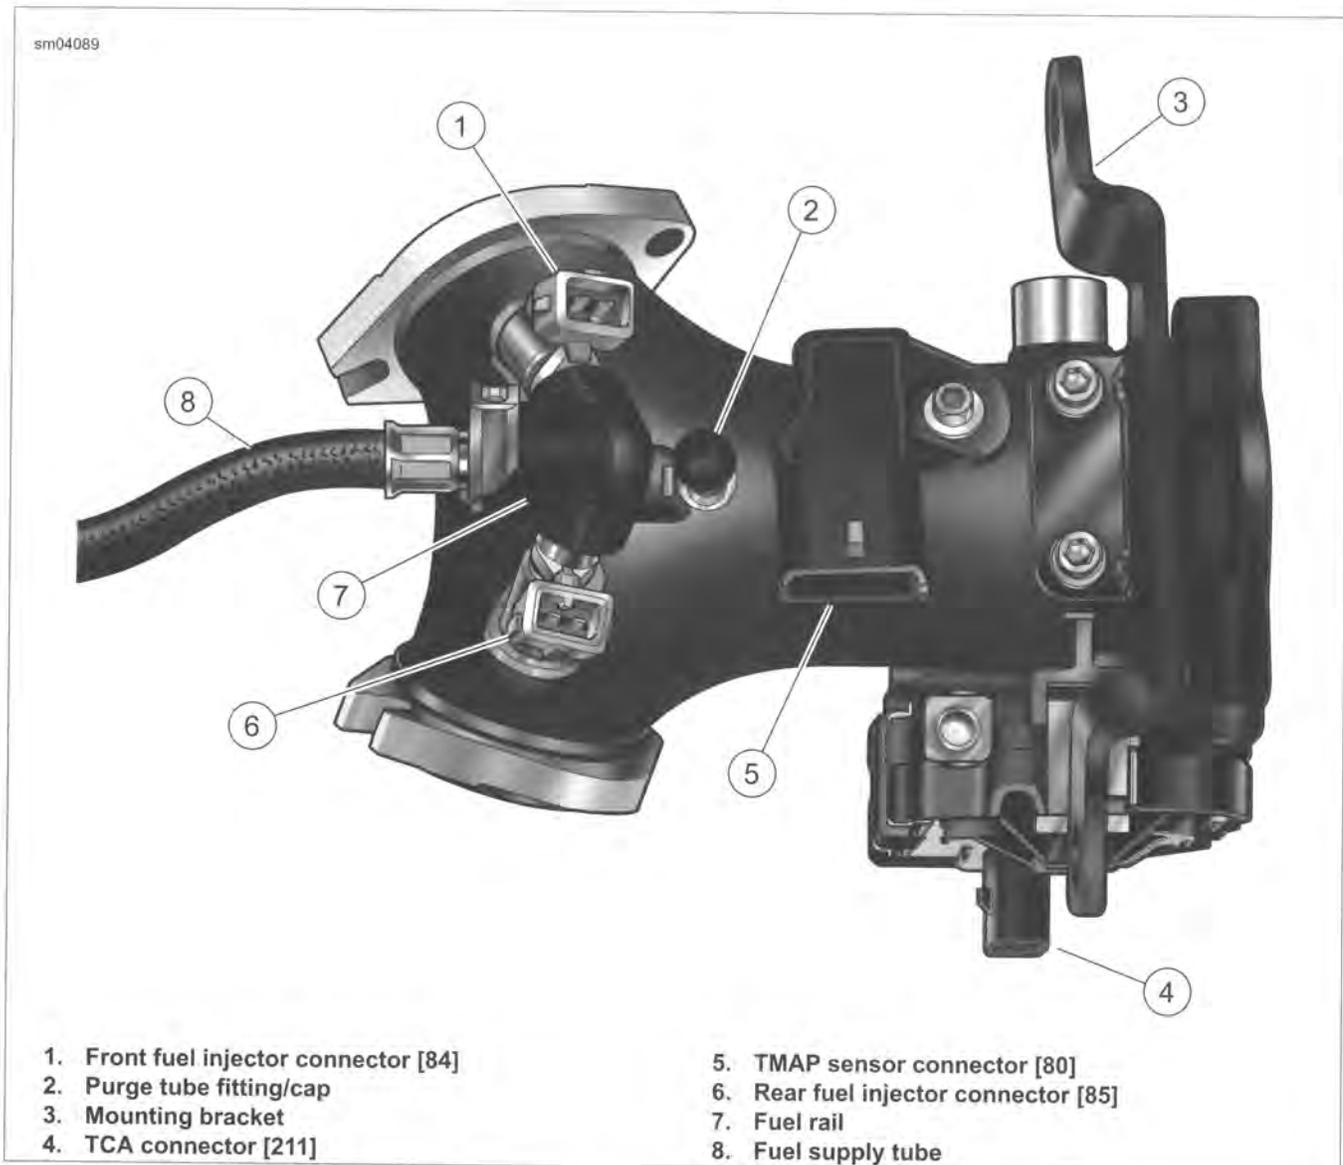
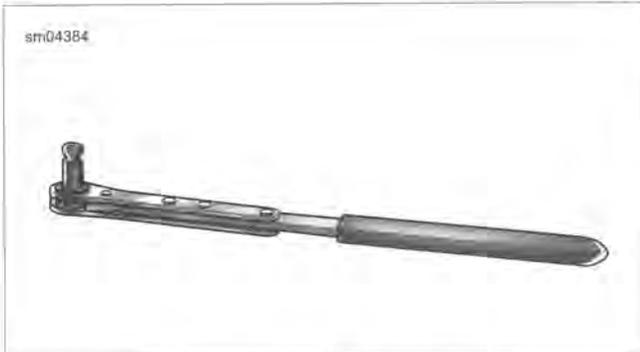

Figure 4-32. Induction Module Assembly
Figure 4-33. Intake Manifold Wrench
3. See Figure 4-32. Remove ACR connectors and retainer from mounting bracket (3).
5. **California models only:** Pull purge tube from fitting (2) at top of induction module.
6. Remove TMAP sensor connector (5).
7. Remove front fuel injector connector (1) and rear fuel injector connector (6).
8. Remove TCA connector (4). Cut anchored cable strap to release connector conduit from front right side of induction module.
9. Remove right side screws from front and rear cylinder head flange adapters. For best results, use the INTAKE MANIFOLD WRENCH (Part No. HD-47250). See Figure 4-33.
3. See Figure 4-32. Slide induction module into position until slots engage screws on left side.
8. See Figure 4-32. Install rear fuel injector connector (6) and front fuel injector connector (1).
9. Install TMAP sensor connector (5).
11. Route conduit rearward under induction module and install TCA connector (4). Tighten cable strap. Remove excess cable strap material.
12. Connect purge tube to fitting (2) (California models only). On non-California models, inspect rubber cap for damage. Replace cap if damaged or missing.
14. Install ACR connector retainer on mounting bracket (3) and secure connectors to it.